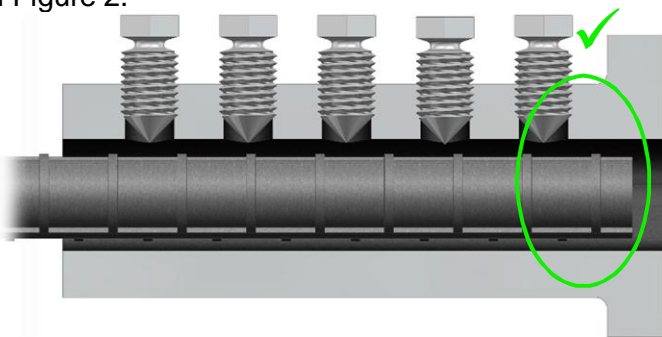
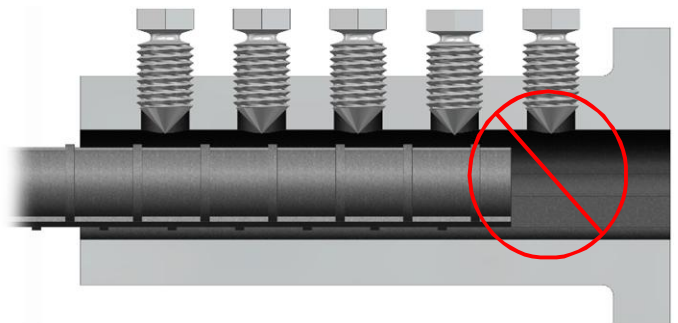

Figure 1. **Correct** Rebar Insertion Depth
Figure 2. **Incorrect** Rebar Insertion Depth
Slide the rebar into the **ZAP T-LOK** to at least the insertion length (I) per Figure 1. Do not under-insert, as shown in Figure 2.